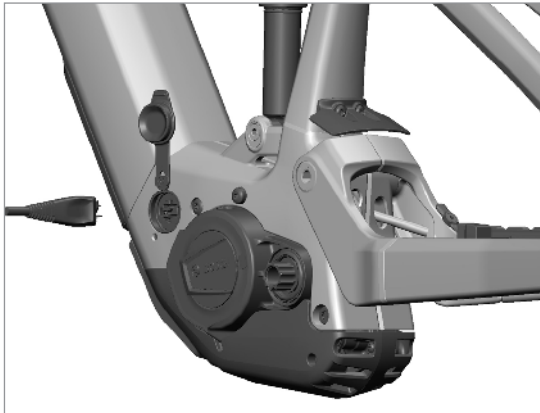

Figure 2
1. Locate the rubber charge port cover on the non-drive side of your ebike, either on the seat tube or by the motor. Pull the press-fit cover away from the charging socket using the tab on the cover (Fig. 2).